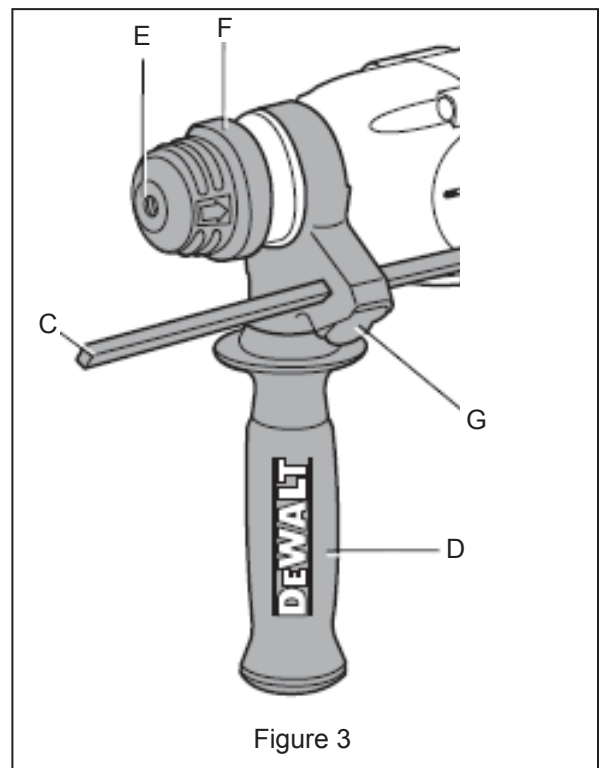

Figure 3
Drilling depth can be set using the depth gauge mounted on the side handle (see Figure 3). To set the gauge, push down on the release button (G) on the side handle, slide the depth gauge (C) to the desired position, and release the button making sure it snaps into place. Be sure the side handle (D) is tight before operating the tool.
To install SDS Plus shanked bits or the bull-point chisel bit, insert the bit shank into the tool holder/locking sleeve. Then push the bit down and turn it slightly until it fits into the slots. Pull on the bit to check if it is properly locked. To remove the bit, push down on the tool holder/locking sleeve (F) (See figure 3) and pull out the bit.
bits and screwdriver bits in non-percussion drill mode, install the Drill Chuck/Screwdriver Bit Adapter as described above. Then install the appropriate bit into the Geared Chuck and tighten with the chuck key. Figure 3 illustrates the adapter, Geared Chuck, and various standard bits.